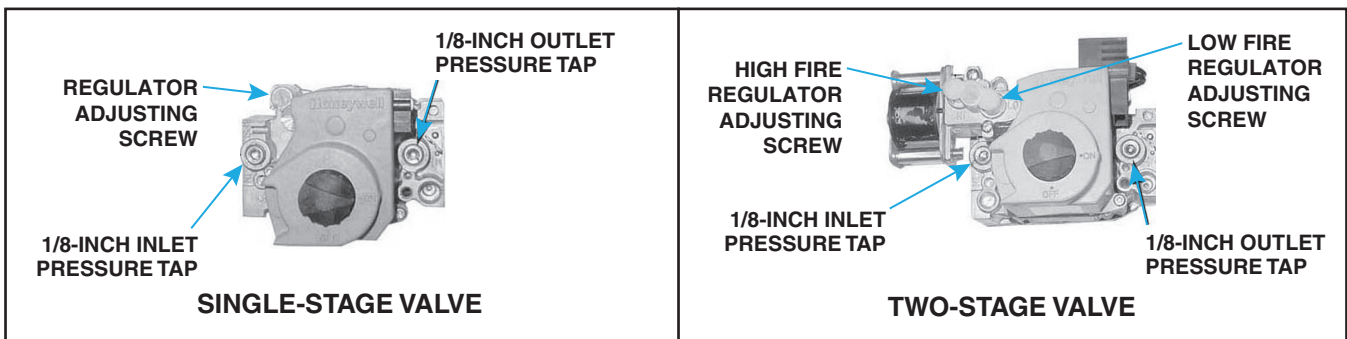

Figure 49. Combination Gas Valve Test Connections
1. Locate 1/8-inch FPT INLET pressure tap on combination gas valve (see **Figure 49**).
2. With field-installed manual valve closed to prevent flow to gas valve, connect manometer to 1/8-inch FPT INLET pressure tap (see **Figure 49**).